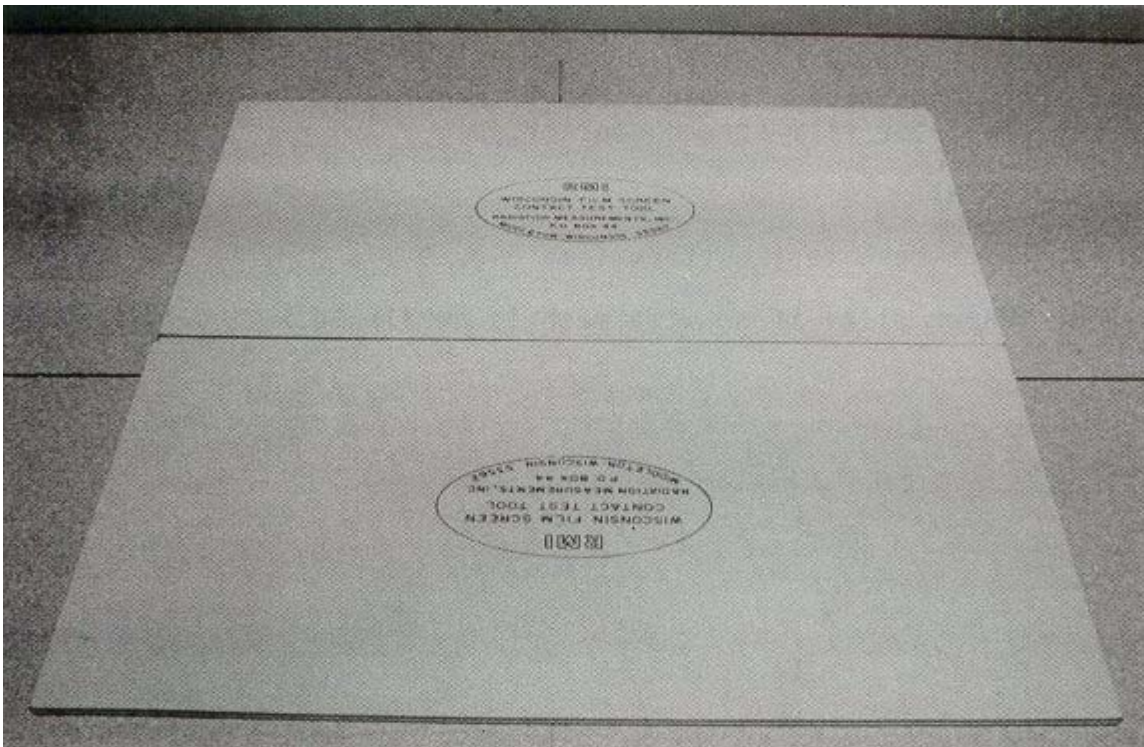

Figure 9-3. Wire mesh patterns that are interchangeable for 8- x 10-, 10- x 12 and 11- x 14-inch cassettes.
- d. Collimate the x-ray beam to the cassette (see figure 9-3).